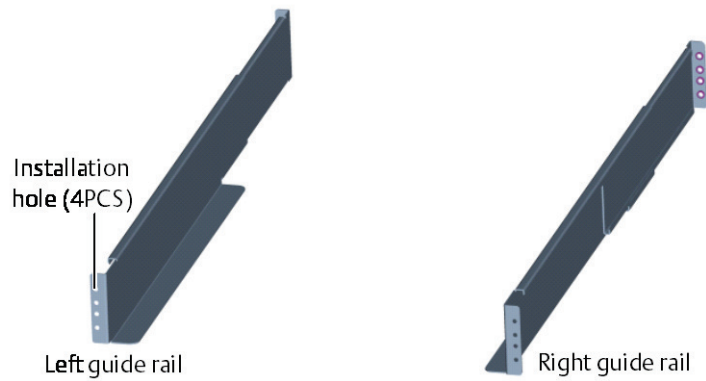

Figure 2-2 Appearance of the guide rails
1) Take out the guide rails (one left guide rail and one right guide rail), guide rail screws and panel screws from the package, distinguish the left guide rail and the right guide rail according to Figure 2-2, and confirm their retractable function respectively.